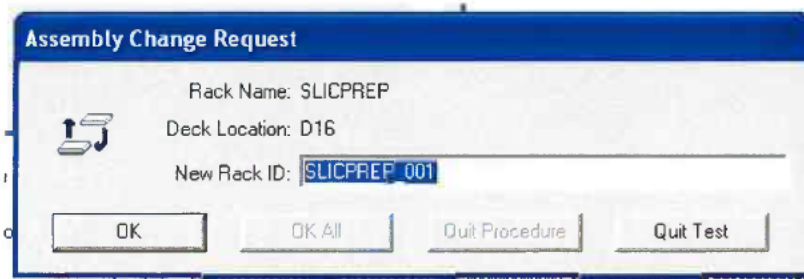

Figure 3. Scan batch ID request
22. Message will appear (Figure 3 below):